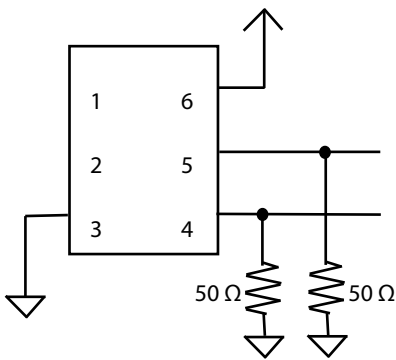

Figure 4.
2. Figure 4 defines the test circuit and Figure 5 defines these parameters.